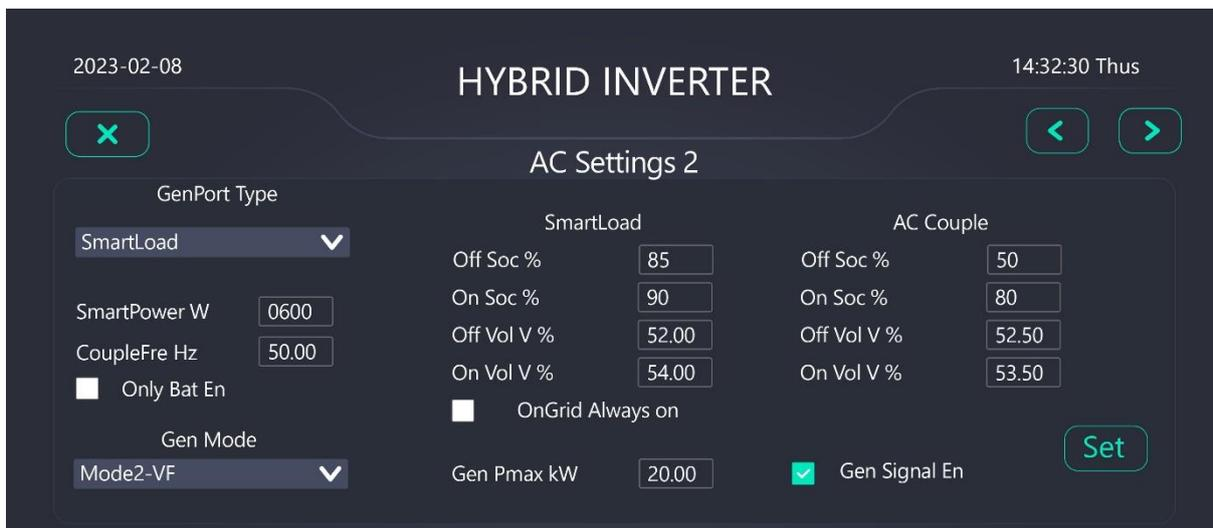

Figure 3.16 AC Setting 2
When the GEN port can be connected to the Gen, intelligent load or AC coupling unit grid-connected inverter , it is necessary to change the GEN interface type in the setting to the corresponding type. The setting path is shown in Figure 3.16 below. Click GenPortType to select the Gen interface type as Generator, Smart loads or AC Couple. Please select according to the actual wiring.
- When selecting the Gen connected to the GEN interface, please confirm that the control line of the Gen is also connected to the J6 1/2 terminal NO2&COM2 Gen adjustment control , J6 3/4 NO1&COM1 Gen start control , select GenPortType as Generator in the grid setting interface in Figure 3.16. At this time, Select Gen Mode, choose one of the two Modes, when the power grid is cut off, and the battery voltage or SOC is lower than the battery discharge voltage or SOC set
- When selecting the smart load connected to the GEN interface, select GenPortType as Smartloads in the grid setting interface in Figure 3.16, and the Gen relay will be turned on at this time, and the GEN interface will supply power to the smart load for output.
- When selecting the AC Couple connected to the GEN interface, select AC Couple as GenPortType in the grid setting interface in Figure 3.16, and then AC Couple and the grid supply power to the system together.